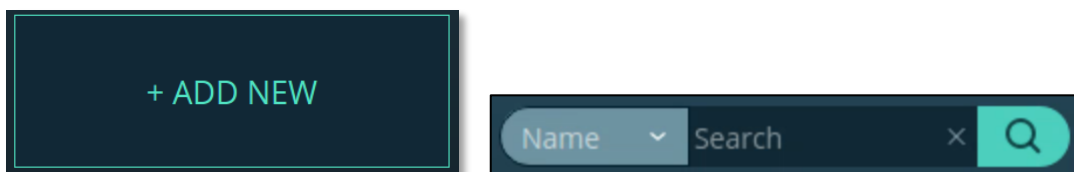

Figure 20. Search for Sensors Buttons
- If the sensor you are looking for is not listed, select a method to search for a sensor. See Search for Sensors on the Network (page 44) and Figure 20. Search for Sensors Buttons.